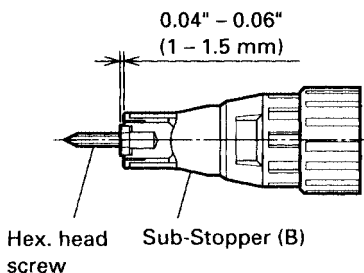

Fig. 4
(1) For hex-head screws (Fig. 4)